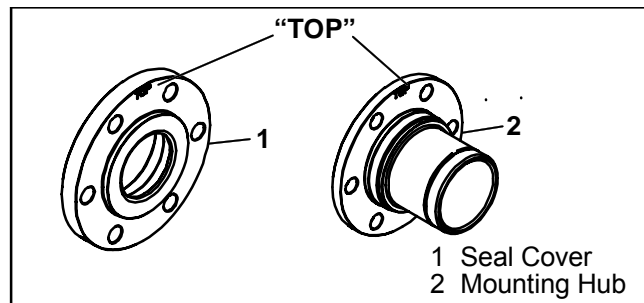

Figure 3-9. TOP Orientation
- i. Assemble the seal cover/clutch mounting hub, the gasket and the six hex head screws on to the compressor, paying attention to the orientation of the cover/hub (see Figure 3-9).